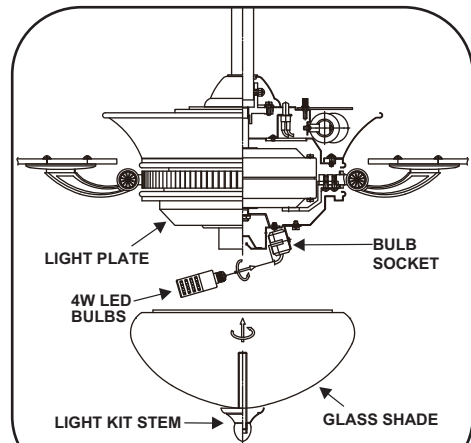

Fig. 22
Step 1. Install 2x4W LED bulbs by screwing it clockwise into bulb sockets. (Fig. 22)
Step 2. Raise the glass shade up against the light plate and secure it to the fan with the light kit stem. (Fig. 22)